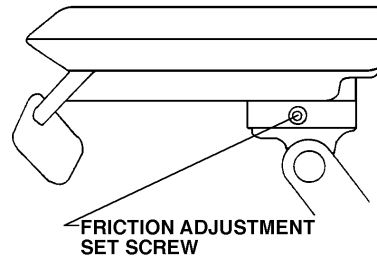

Fig.9-2 Adjustment of Doctor Table Rotation Friction
2. Adjustment of Doctor Table Rotation Friction (**Fig.9-2**)